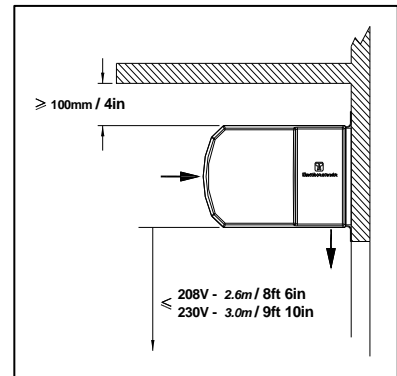

Fig 1
- the height of the discharge grille above floor level to be no more than as indicated in Fig 1
- at least $100\text{mm} / 4\text{in}$ clearance (air gap) above electric/water heated air curtains, see Fig 1